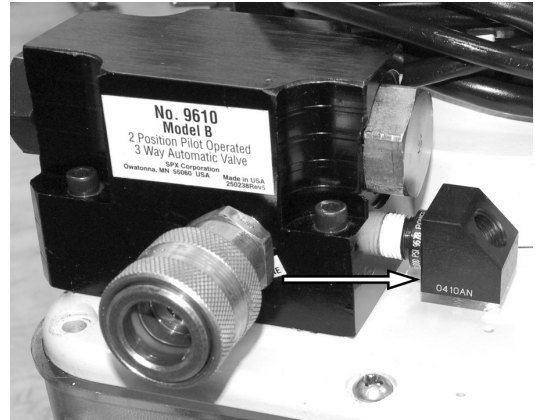

Figure 5. Elbow Installation
2. See Figure 5. Install sealant tape or non hardening sealer to a 45 degree elbow (PN 9678). Install the elbow as shown.